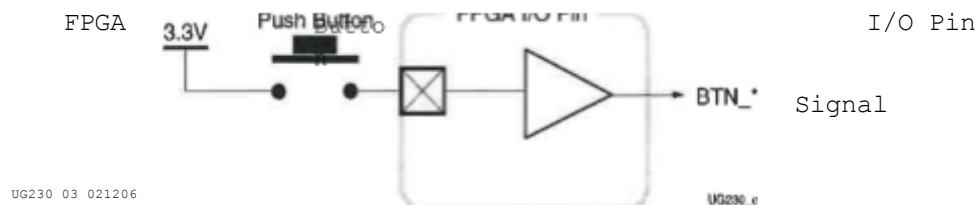

Figure 1: Push-Button Switches
(10) b. Figure 1 shows a push-button connected to an I/O block of an FPGA. Explain how should we configure the I/O block to be able to correctly read the logic values coming from the pushbutton, why that configuration is necessary and how we may do that?